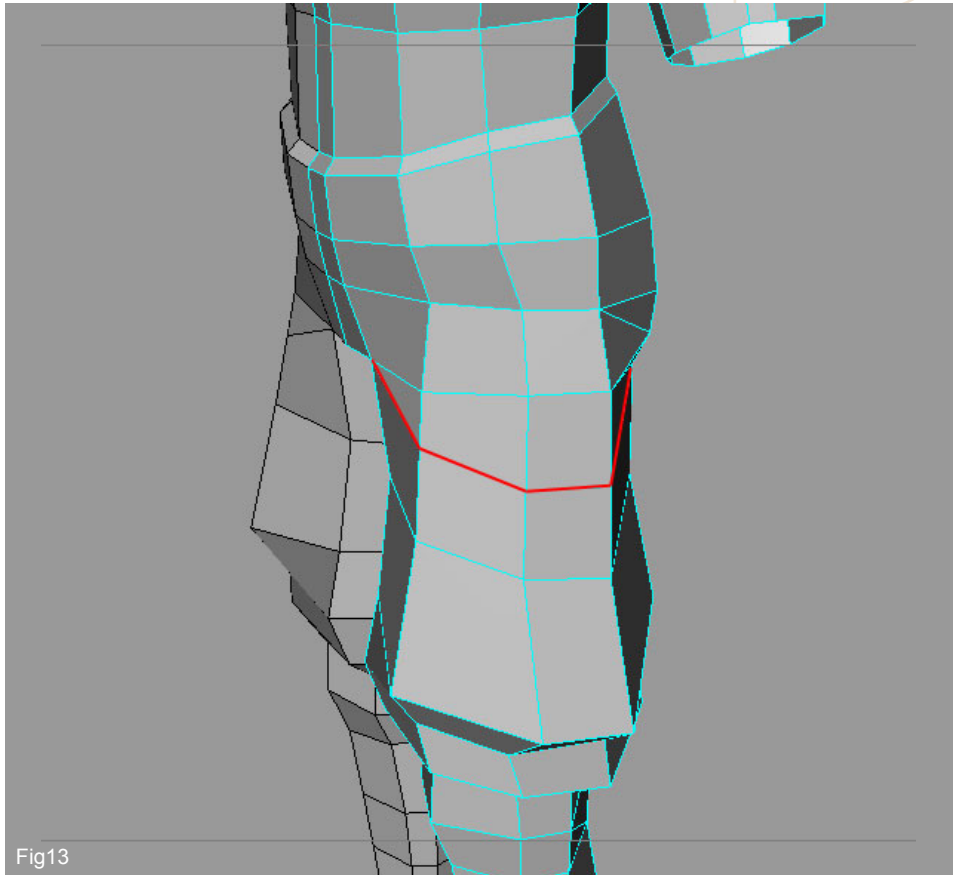

Fig13
13. Add a further cut from the front of the mesh and around to the back as shown in Fig13.